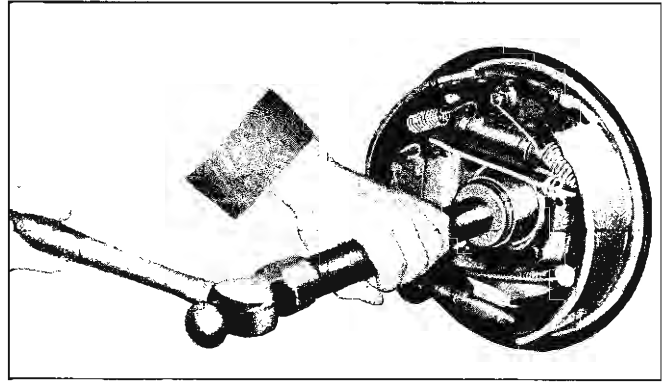

Fig. 44—Wheel Bearing and/or Oil Seal Installation
- Lubricate new bearing with wheel bearing lubricant, and install bearing so that it bottoms against shoulder (fig. 44). To install bearing use Tool J-21491 for the light-duty axle and Tool J-21051 for the heavy-duty axle.
3. Pack cavity between the seal lips with a high melting point wheel bearing lubricant; position seal on tool (Use J-21491 for light-duty axle and J-21051 for heavy-duty axle) and position seal in axle housing bore, tap seal into place so that it bottoms against bearing (fig. 44).